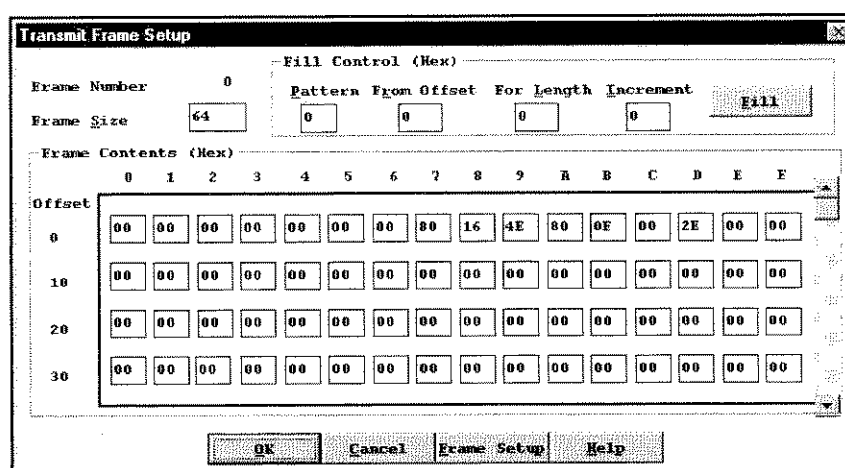
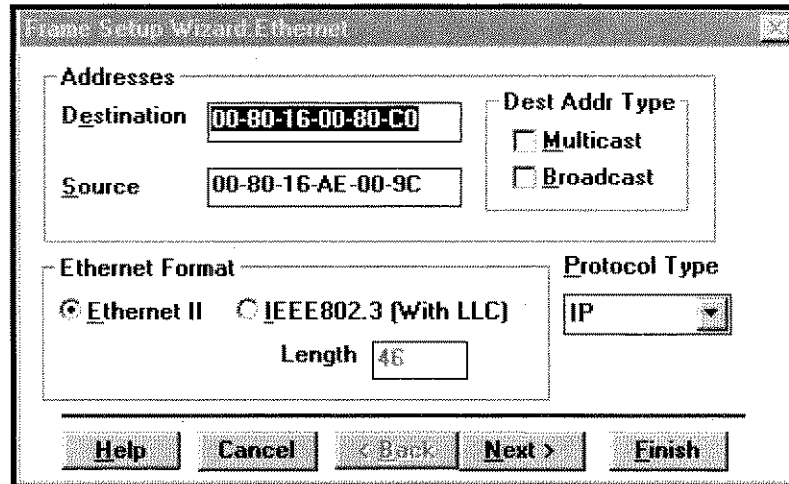

Figure 8-4. Transmit Frame Setup dialog box
Figure 8-5. Frame Setup Wizard - Ethernet dialog box
You can use the Transmit Frame Setup dialog box (Figure 8-4) and the Frame Setup Wizard to create a new frame. From the Transmit Frame Setup dialog box, you can define a frame between 4 and 8192 bytes long and use the **Fill Control** options to specify a hexadecimal pattern to be replicated within the frame.
4. To open the Frame Setup Wizard to specify protocol-specific addressing and encapsulation options, click **Frame Setup**. The Frame Setup Wizard - Ethernet dialog box is displayed (Figure 8-5).
You can select or modify the size of a transmit frame in the **Frame Size** box on the Transmit Frame Setup dialog box (Figure 8-4). The frame size (in bytes) is entered in decimal format, and can be between 4 and 8192 bytes. The frame size does not include the number of FCS bytes, which are appended to the frame when the **Append FCS** option is enabled.
You can use the **Fill Control** box on the Transmit Frame Setup dialog box (Figure 8-4) to quickly enter the same hexadecimal data pattern into multiple bytes of the frame. You can also increase the value of each subsequent byte (in the specified range) by an incremental value. All values are specified in hexadecimal format.
The first wizard dialog box (Figure 8-5) allows you to specify the Ethernet options for the transmit frame including MAC addresses, address type, Ethernet frame format, and the next-layer protocol type. From there, depending on the Ethernet frame format that you selected and the next-layer protocol type, you can access the following wizard dialog boxes to set up other protocol information:
1. From the Transmit Frame Setup dialog box (Figure 8-4), click **Frame Setup**. The Frame Setup Wizard - Ethernet dialog box is displayed (Figure 8-5).
You can use the Frame Setup Wizard - Ethernet dialog box (Figure 8-5) to select the destination address type and specify the source and destination address fields for a frame that you want to transmit. From the Frame Setup Wizard - Ethernet dialog box, you can continue to specify higher-level protocol addressing, such as IP, when you choose **IP** for the **Protocol Type** option and click **Next**.
Use the Frame Setup Wizard - Ethernet dialog box (Figure 8-5) to specify the length or protocol type of the Ethernet frame that you want to transmit. Depending on the type of Ethernet frame format that you are setting up, you can specify either the frame length (for Ethernet II) or the protocol type (for IEEE 802.3).
The Transmit Frame Setup dialog box is displayed (Figure 8-4), and you can edit the frame contents.